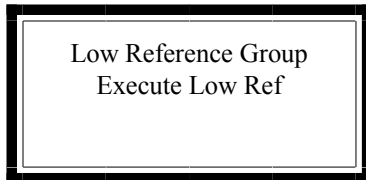

Figure 9b: Executing Low Ref.
- 4) Toggle the "Next" key until you reach the "Execute Low Ref" Menu, Figure 9b, and press the MODify key, and follow the two remaining prompts. (Continue, Ready)